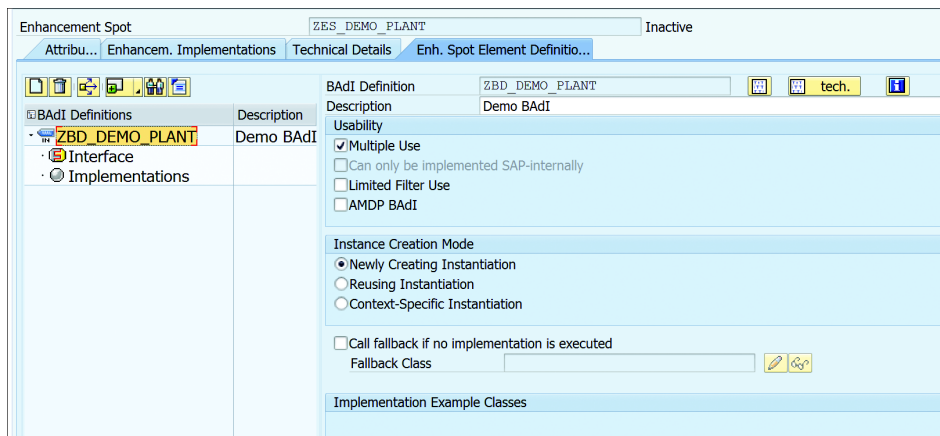

Figure 20.33 Create BAdI Definition
3. On the BAdI definition page, as shown in Figure 20.33, you'll see the BAdI definition with its subobjects in a tree structure. Once the BAdI is selected, you can set certain attributes. Within the ENH. SPOT ELEMENT DEFINITION tab, implement the following changes: